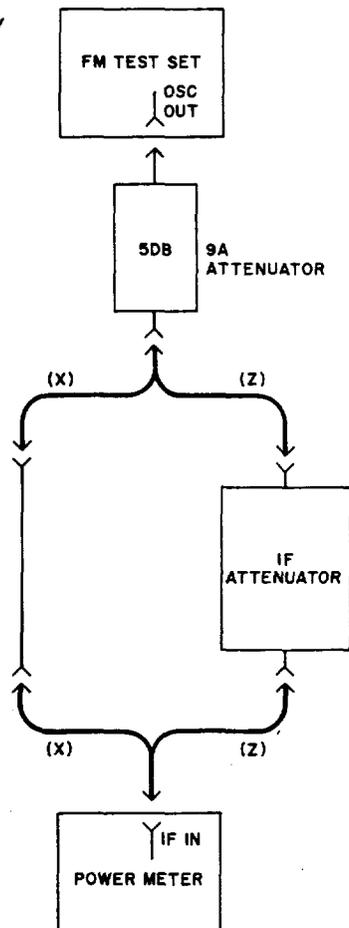

Fig. 1—IF Attenuator—Test Setup Diagram
- 2 Arrange the test equipment and make initial control adjustments as shown in Fig. 1. Use option (X). Connect the ends of the two test cables using a H228-81C, G1 cord.
- 5 Insert the IF attenuator in the test circuit as shown in Fig. 1, option (Z). Release all the controls on the attenuator under test.